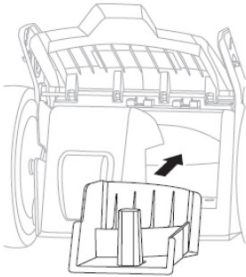
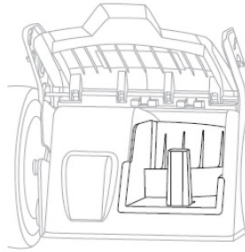

Fig.8B
Fig.8C
- 2) Push the mulching wedge into the deck. Making sure it is securely in place (Fig. 8B/ Fig. 8C)